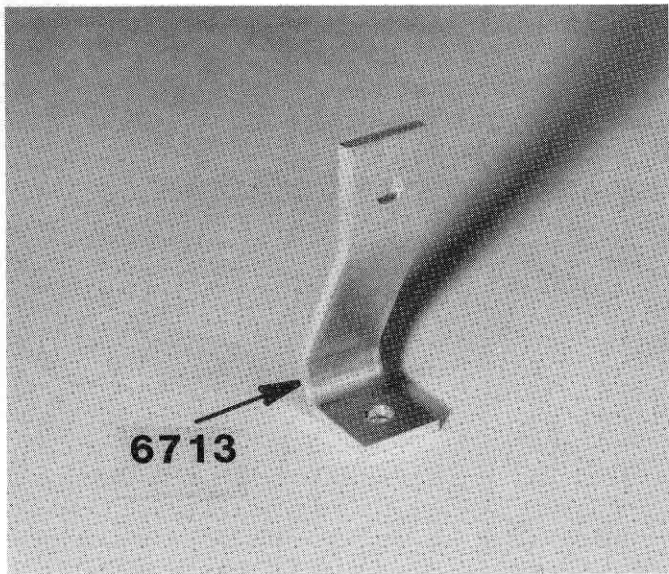

Fig. 126
□ **Fig. 126 & 126a** From Bag #6-13, install the two #6713 bent resistor mounting brackets to the "C" holes of the chassis with two #6922 4/40 x 1/2" FHSS and two #6295 locknuts as shown. Make sure that the angles in the brackets are facing towards the back of the car. The lower bend will be towards the front of the car. The upper portion of the brackets should also be close to vertical, if not, bend to correct.